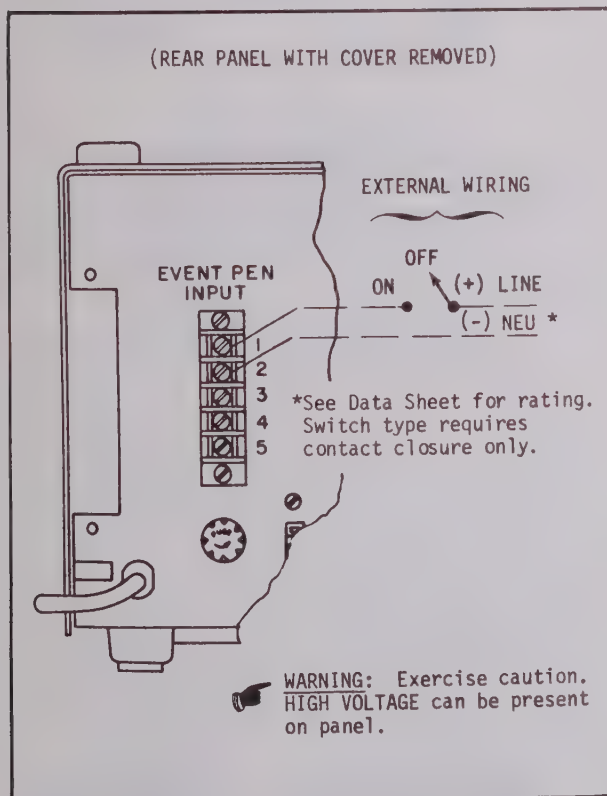

Figure A2-1. External Connection Diagram.
a. All Miniservo III Ammeter-Voltmeter Recorders can be equipped with an Event Pen attachment. This option is designed to record event information by graphically indicating the time of occurrence and duration of external "on-off" signals. The system features a separate inking pen that records in the right-hand margin of the chart paper. The event pen is time-aligned on the chart with the red analog pen, but all analog electrical circuits are completely isolated from the event pen circuit. External connections are provided on the rear panel of the recorder, as shown in Figure A2-1.
- (1) Unpack items from accessory kit, make sure that all shipping materials have been removed from recorder, and remove instrument power.
- (2) Connect external event circuit to rear terminals of recorder as shown in Figure A2-1. See Data Sheet for type and rating. System should operate within 10% of rated voltage. Observe polarities when connecting DC sources.